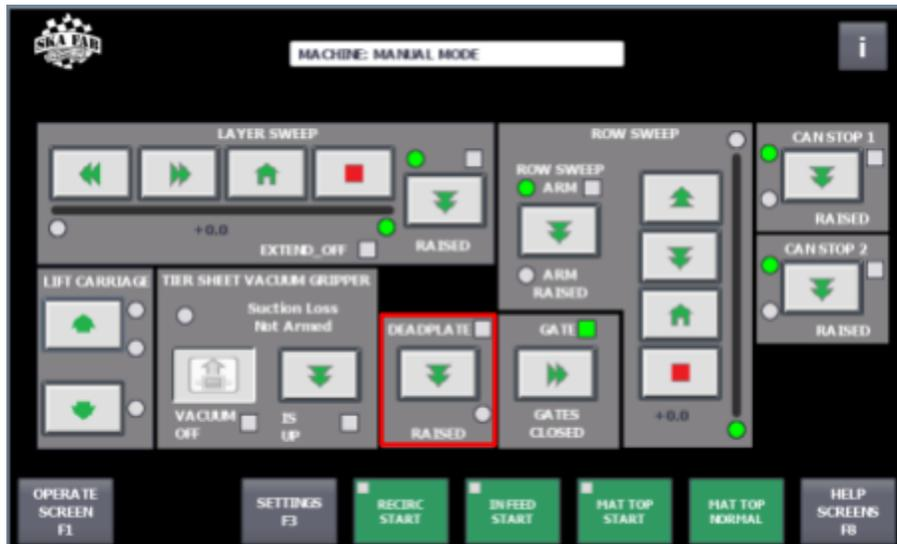

Fig. 38: HMI Screen – Deadplate raised
1. In Manual Mode on the HMI, press the DEADPLATE UP/DOWN ARROW button (Fig. 38) to raise the Pop-up Deadplate.